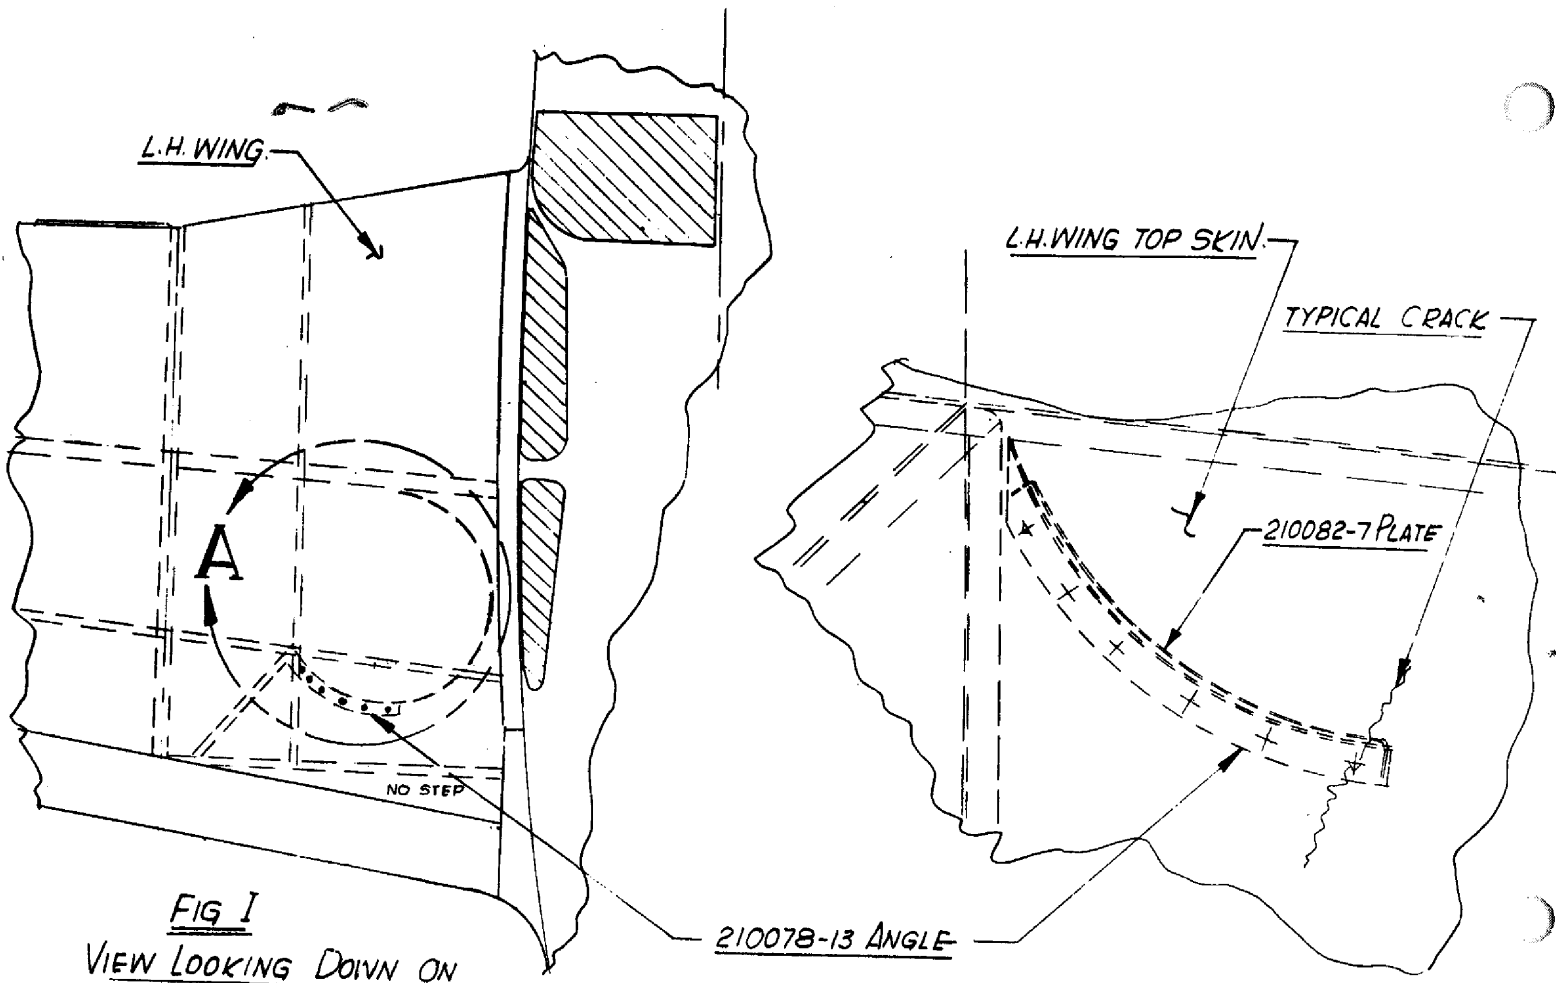

FIG 1
1. At each 100 hour inspection, check the area described in Figure 1 for cracks from the last rivet attaching the wheel well plate to the top wing skin.
2. If cracks are found, remove 210082-7 plate and 210078-13 attach angle shown in Figure 1.